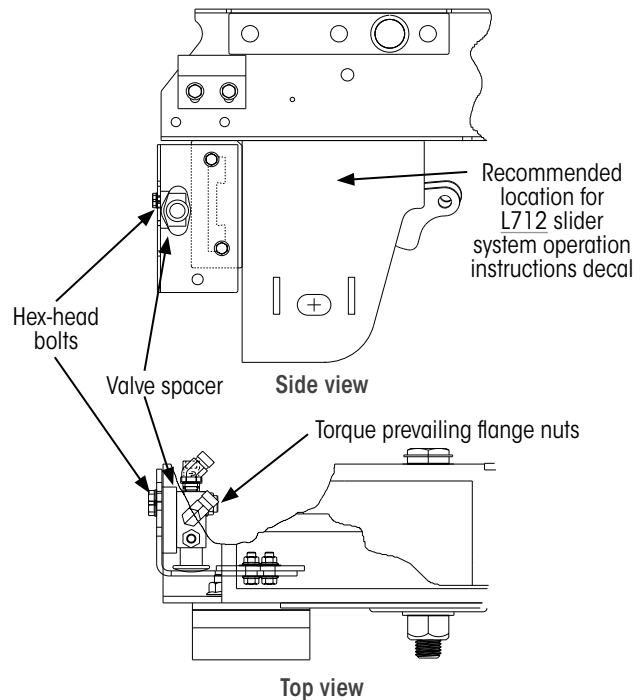

Figure 13: Installing the QUIK-DRAW® control valve
6. **Orient** the QUIK-DRAW control valve so the exhaust hose is facing downward and **place** the control valve, with spacer (if equipped, Figure 13), on the valve mounting bracket.
7. Using the two $\frac{1}{4}$ - 20 x 1.5 inch hex head bolts, provided in the retrofit kit, **insert** the bolts through the QUIK-DRAW valve, spacer (if equipped) and mounting bracket holes (Figure 13).
7. After final painting, **apply** the supplied L712 *Slider System Operating Instructions decal* near the QUIK-DRAW control valve (Figure 13 on page 10).